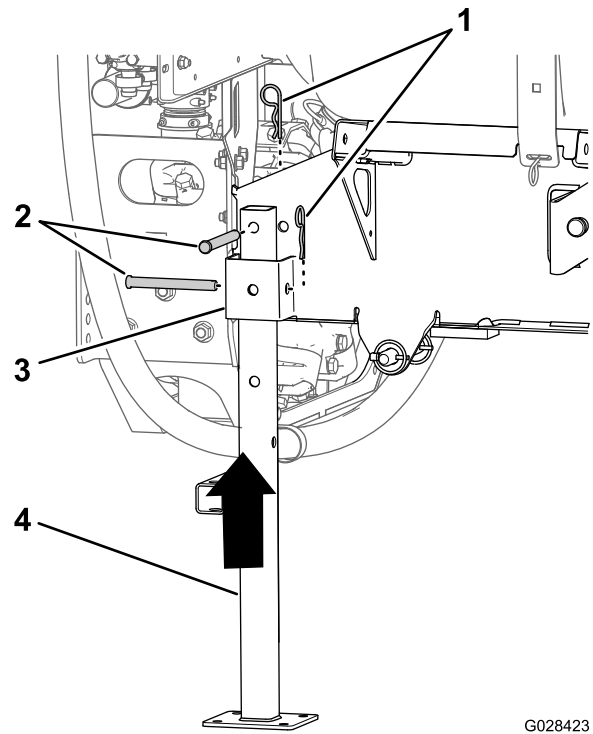

Figure 131
5. Align the rear jackstand with the rear jackstand receiver (Figure 131).
6. Align the hole in the top of the jackstand with the hole in the frame of the tank skid (Figure 131).
7. Secure the jackstand to the receiver and the frame with 2 clevis pins (1/2 x 4-1/2 inches) and 2 hairpins (5/32 x 2-5/8 inches) as shown in Figure 131.